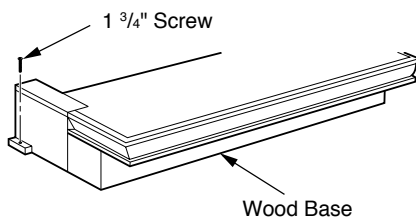

Figure 12 - Attaching Wood Base to Floor
10. Attach wood base to floor with two 1 3/4" black screws provided (see Figure 12). If the floor is concrete use anchor method (see *Attaching Wood Base to Solid Floor*, page 17).